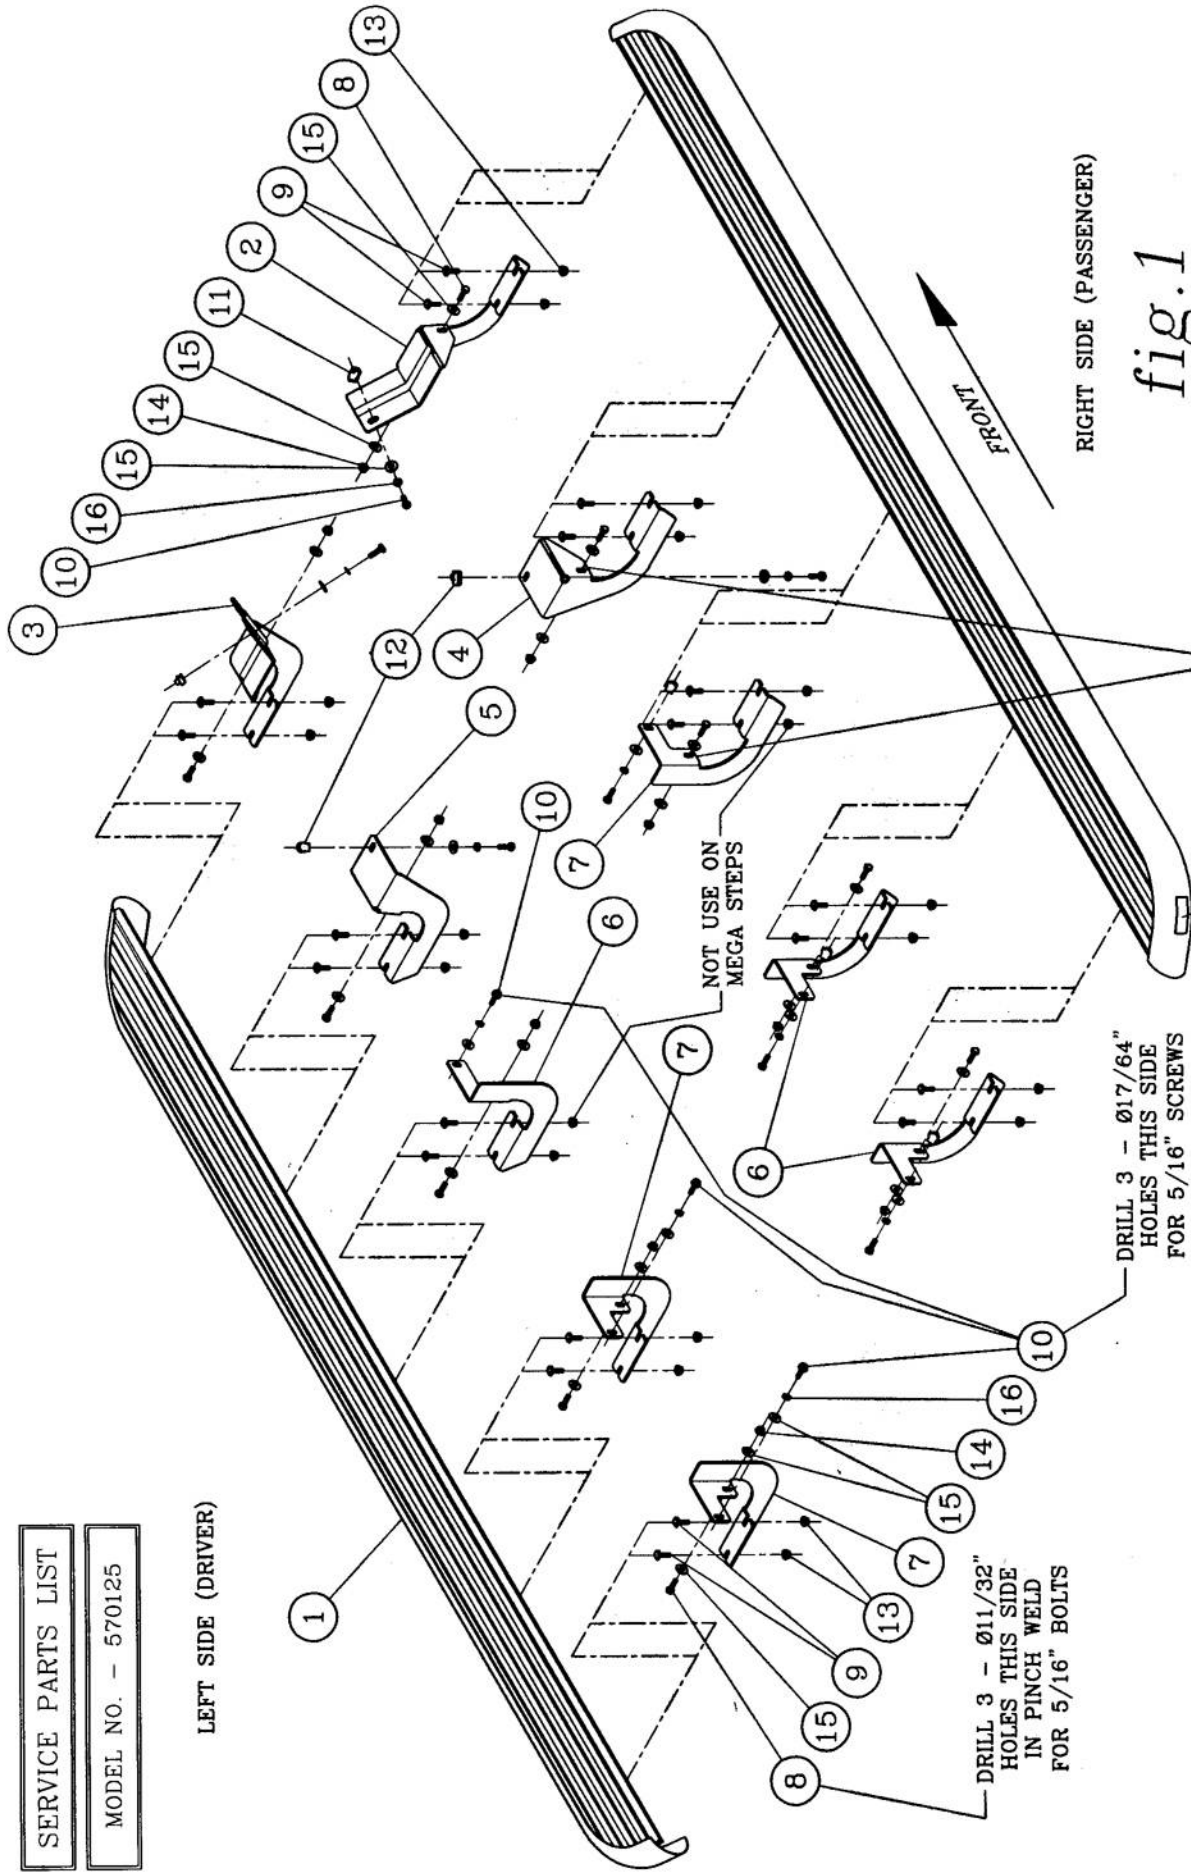

fig.1
3. INSTALL THE MOUNTING BRACKETS (ITEMS #2, #4, #6 & #7) USING THE 5/16-18 X 1" HEX BOLTS (ITEM #8), 5/16" FLAT WASHERS (ITEM #15) AND 5/16" LOCK WASHERS (ITEM #16) AS SHOWN IN FIG. 1. INTO THE MULTI THREAD U-NUTS. FINGER TIGHTEN ONLY AT THIS TIME.
4. INSTALL THE 5/16-18 X 1" HEX BOLTS (ITEM #8), 5/16" FLAT WASHERS (ITEM #15) AND BLACK PLATED 5/16" SERRATED FLANGE NUTS (ITEM #14) THROUGH THE HOLES IN THE LOWER PINCH WELD AND THE BRACKET AS SHOWN IN FIG. 1. FINGER TIGHTEN ONLY AT THIS TIME.
11. MOUNT ONE OF THE (ITEM #6) BRACKETS TO THE END OF THE STEP PLATE AS SHOWN IN FIG. 1. (NOTE: THE HOLES THROUGH THE FLANGE OF THE THREE REAR BRACKETS SHOULD BE 51-1/2", 73-1/4" AND 92-1/8" FROM THE FRONT. CHECK THE PASSENGERS SIDE OF THE VEHICLE FOR THE LOCATIONS.
16. USING THE TOP HOLES IN THE BRACKET AS A GUIDE, DRILL Ø17/64" HOLES THROUGH THE INSIDE BODY PANEL AND INSTALL THE 5/16 X 1" WASHER HEAD SCREWS (ITEM #10), 5/16" FLAT WASHERS (ITEM #15) AND 5/16" LOCK WASHERS (ITEM #16) AS SHOWN IN FIG. 1.